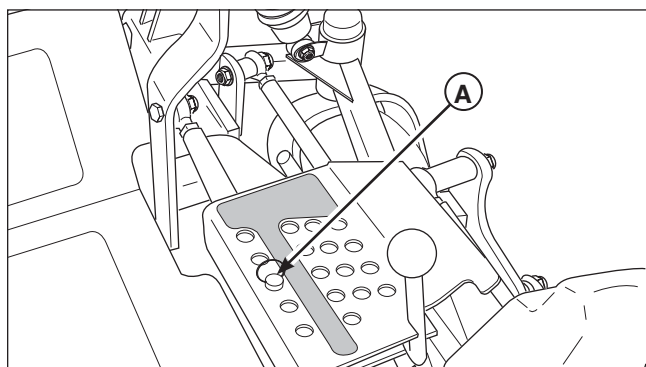

Figure 44. Lower the Mower Deck
4. Adjust the front eyebolts until the chains are tight and the deck is still resting on the 2 x 4's. Tighten jam nuts. See Figure 44.
5. Loosen the jam nuts (A, Figure 44) and turn the adjustment bolts (B) until the chains are tight and the rear of the deck is resting on the 2 x 4's. Tighten the jam nuts.
2. Remove the height adjustment pin (A, Figure 44) and lower deck.